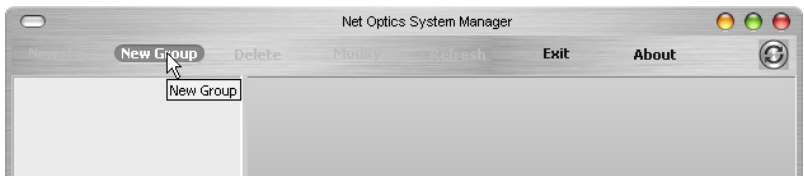
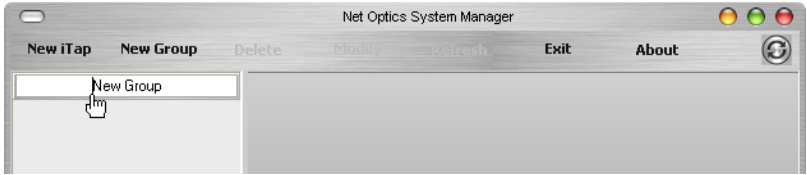

Figure 24: New Group
Figure 25: Group Bar
1. Click **New Group** in the toolbar as shown in Figure 24. A new group bar appears in the System Frame as shown in Figure 25.